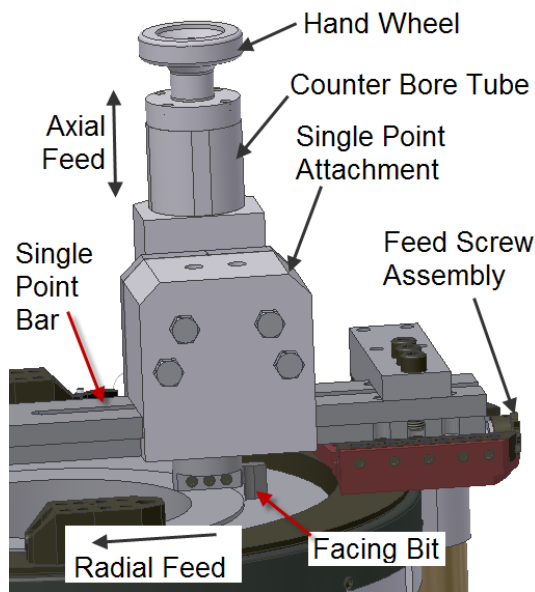

Figure 13
1. Square and center the Clamshell on the work piece. Disengage the tripper pin. Remove the cap from the tool blocks on both slide assemblies. Remove the feed screws assembly from one slide assembly. Bolt the swivel head attachment to the tool block with the slotted end of the bar pointing toward the slide assembly that has the feed screw assembly (see Fig. 13).
2. Insert the facing bit into the bore bar. The cutting side of the bit should face the set screws in the bar (see Fig. 13). Adjust the counter bore tube height and lock into place. Slide the single point attachment into position along the bar and tighten the 2 set screws to lock it in place. Tilt the counter bore tube to the desired angle and lock by tightening the 4 hex bolts on the single point attachment. Use the star wheel wrench and the hand wheel to radially and axially position the tool bit at the edge at the outer wall of the flange. Install the motor.